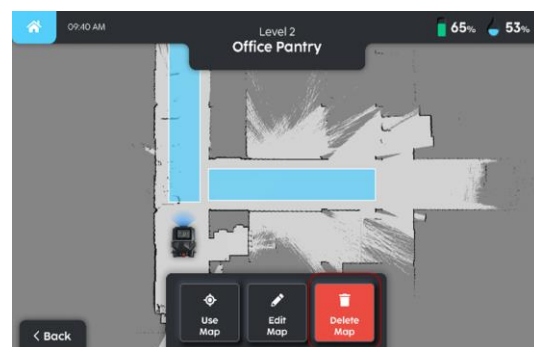

FIGURE 4-8
2. Select delete map (Fig. 4-8).